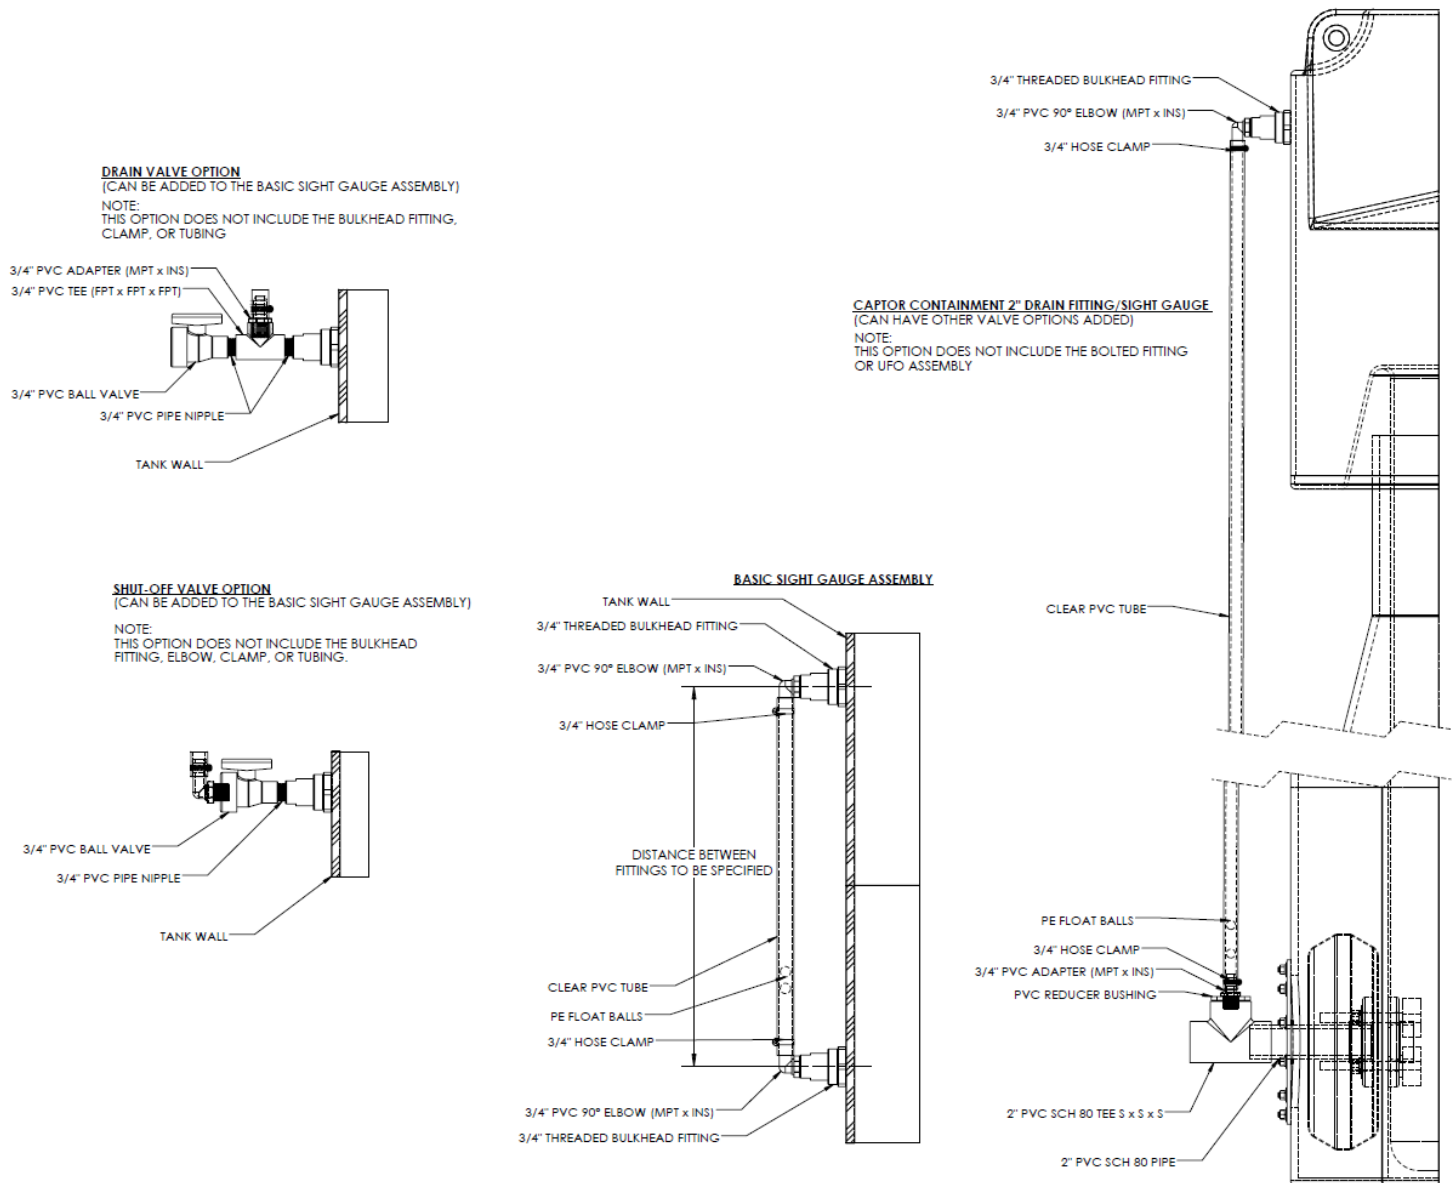

Figure 7.7
7.7.2 Using the assembly drawings shown in Figure 7.7, verify that all parts are present and assemble the unit per the appropriate drawing. Seal all threaded pipe connections with Teflon pipe sealant. Gallonage decals may be purchased as separate items and customer applied to the tank to assist in indication of tank gallonage. NOTE - Gallonage decals are not available for all tank sizes.